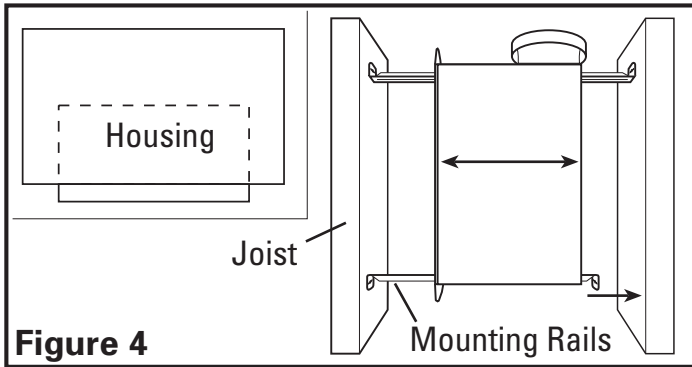
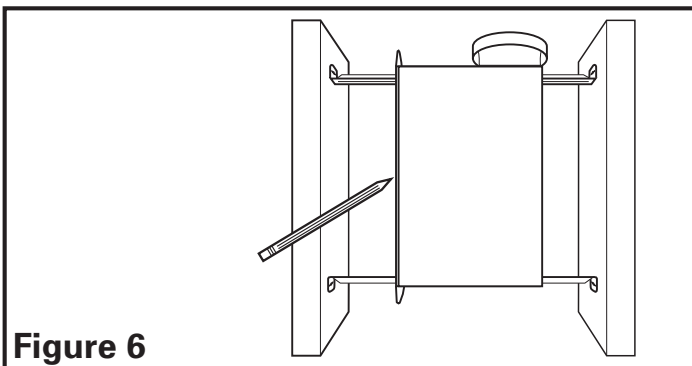

Figure 4
Figure 6
ceiling. Secure the ends of the rails with screws or nails (not included) to the joists and slide housing into final position (**Figure 4**).
1. **Mounting Rail Installation:** Set housing in position between the joist and trace an outline onto the ceiling material (**Figure 6**). Set housing aside and cut opening, being careful not to cut or damage any electrical or other hidden utilities. Install the rails on the housing and position the housing in the previously cut hole so that it is flush with the finished ceiling. Secure the ends of the rails to the joists with screws or nails (not provided) to ensure proper installation (**Figure 4**).